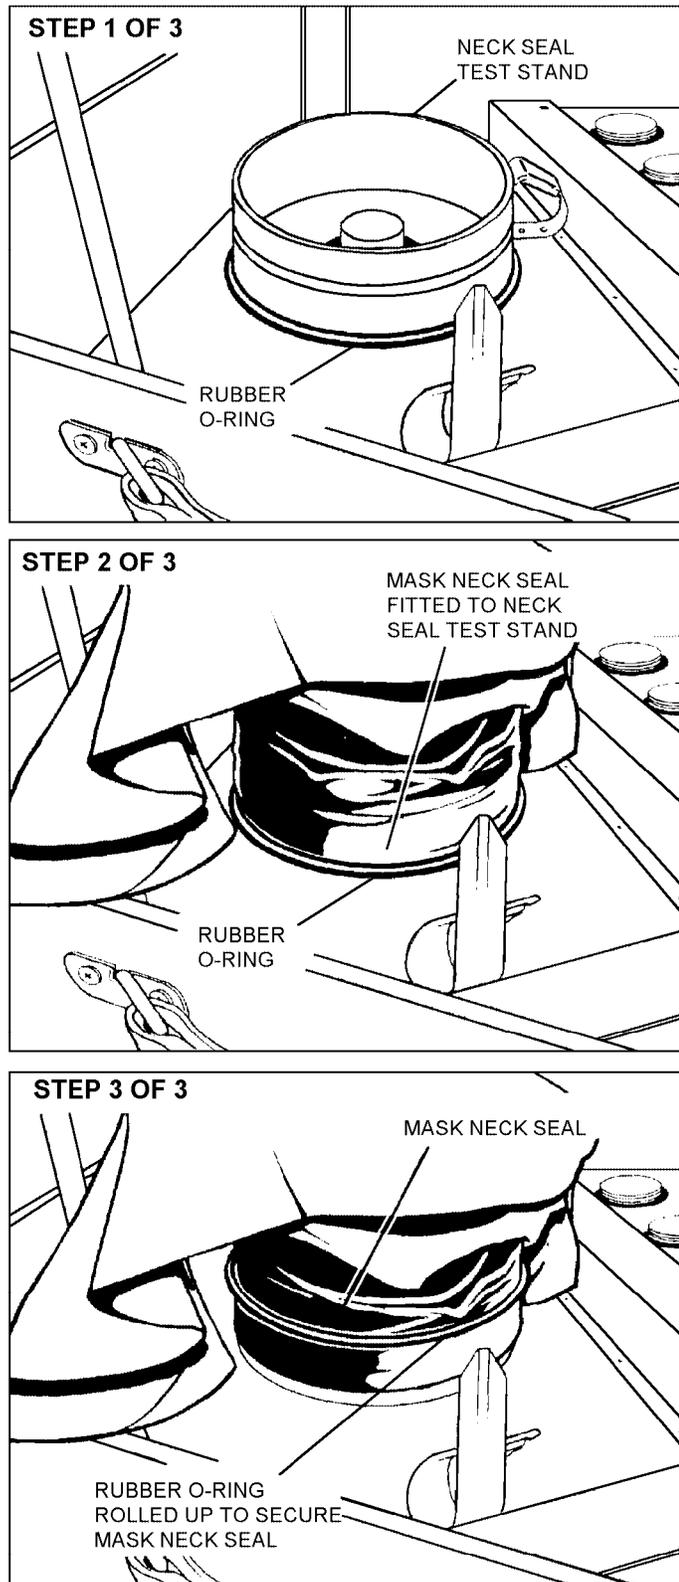

Figure 3-43. Neck Seal Test Stand
5. Fit respirator neck seal to neck seal test stand and secure with O-ring (figure 3-43).
1. Ensure neck seal is properly fitted to neck seal test stand (figure 3-43).